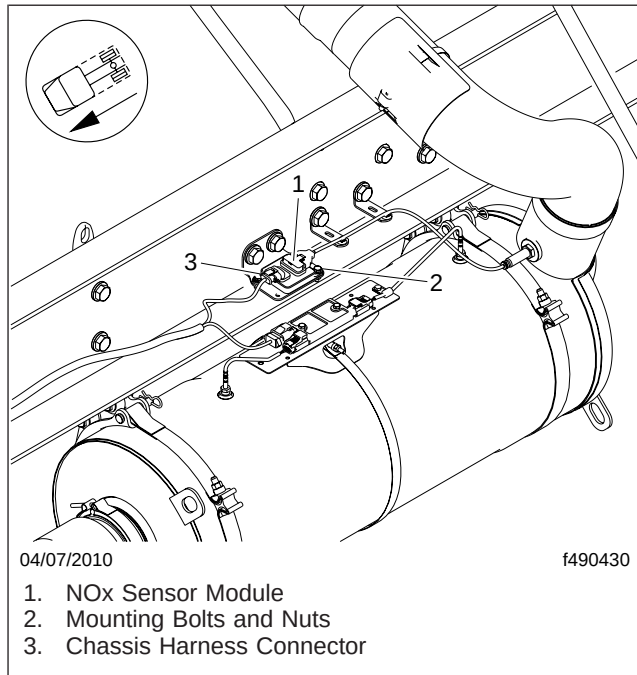

Fig. 3, NOx Sensor Module Installation
5. Remove the NOx sensor module from the frame rail bracket and secure it to the SCR catalyst. See Fig. 3.